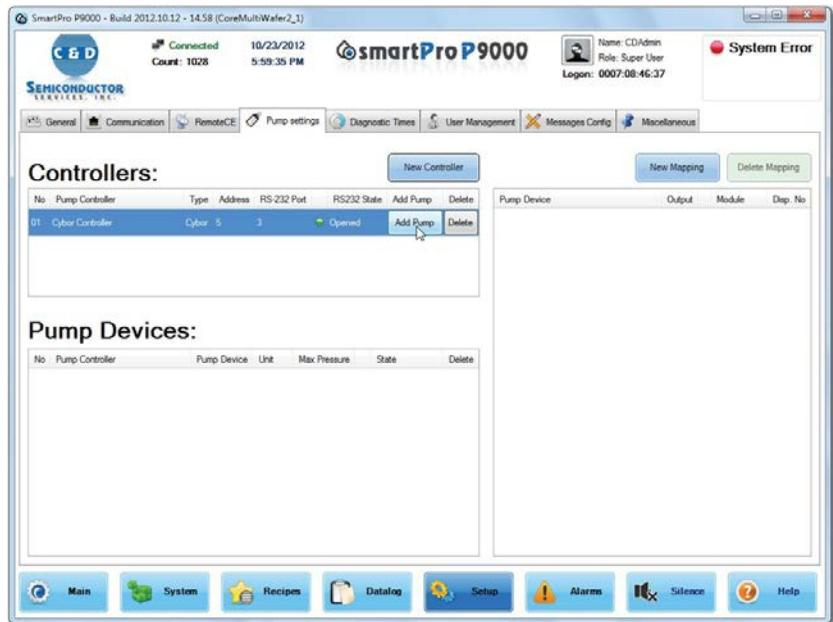

FIGURE 4-7: Adding a pump to pump controller
1. On the Pump settings page, click **Add Pump**, as shown in Figure 4-7.